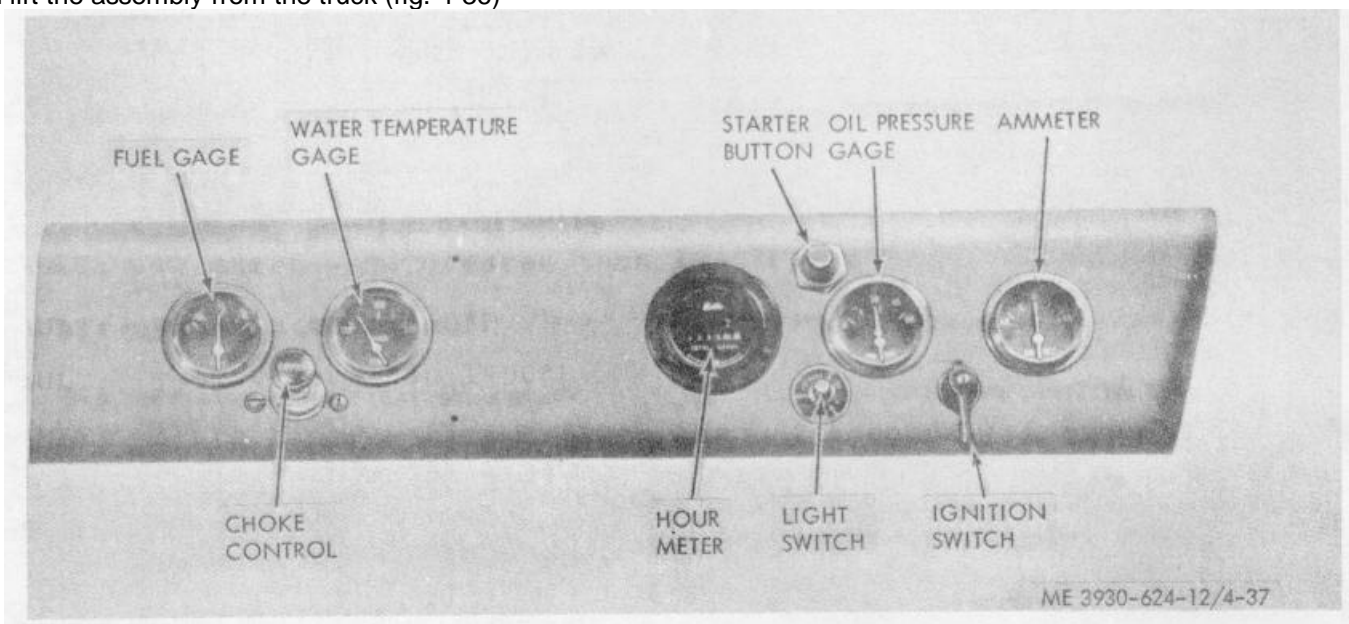

Figure 4-37. Instrument panel gages, meters, and switches.
(4) Remove any of the units from the instrument panel as necessary for replacement. Refer to figure 4-37.